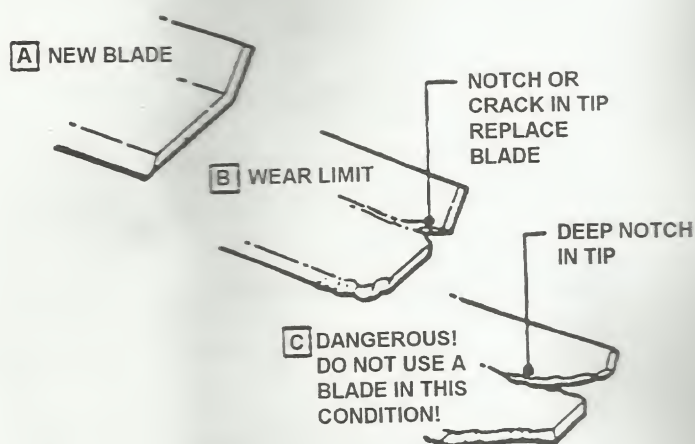

FIGURE 4.1
1. Inspect blade frequently for signs of excessive wear or damage. See Figure 4.1.
2. Replace the blade if it is badly chipped, bent, noticeably out of balance or has cracks or notch in either tip. See Figure 4.1. Replace with new blade.
6. Reinstall blade. Refer to Figure 4.1. Check torque of blade retaining cap screw. Recommended torque should be 30 to 40 ft. lbs.